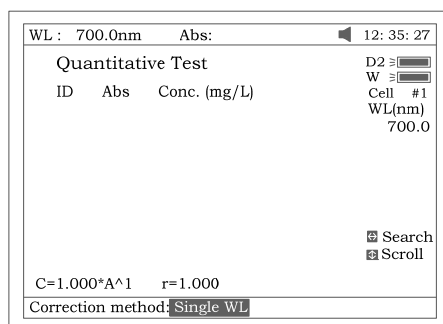

Fig 28
2. Press [SET λ] to select correction methods and enter the wavelength. There are three correction methods (single, Isoabsorbance and 3 point, Fig 28).